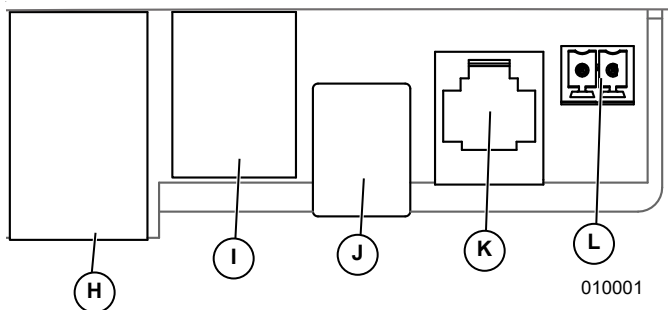

Figure 5-8. Accessory Ports
- See Figure 5-8. Connect CTs to the inverter using a RJ-45 connector and Category 5 (Cat 5) Ethernet cable.
- CT input jack (H) is a double-stacked RJ-45 jack. Either the top or bottom jack may be used.